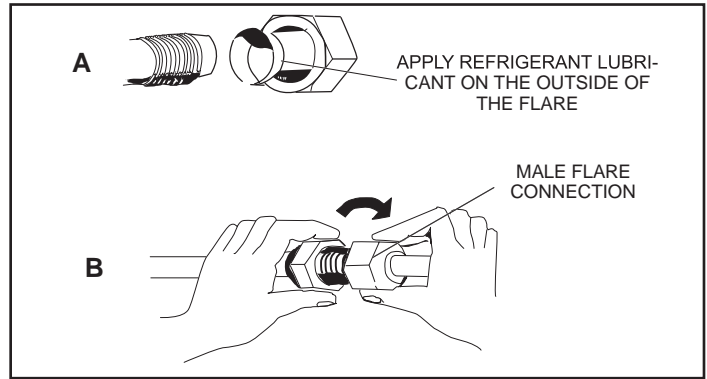

Figure 5. Making Connections (Male to Female Connection)
4. Apply recommended HFC-410A refrigerant lubricant to the outside of the flared refrigerant lines (figure 5-A).
5. Align the threaded connections with the flared refrigerant lines. Tighten the flare nuts lightly at first to obtain a smooth match (figure 5-B).